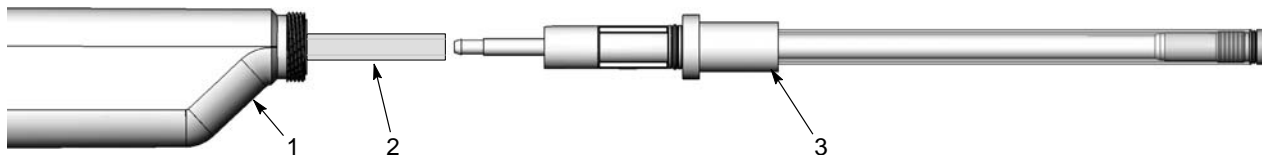

Figure 2 Connecting Powder Tubing to Lance Extension
1. See Figure 2. Slide the 8 or 10-mm powder tubing (2) through the spray gun body (1) from the rear and out the front.
2. Connect the powder tubing to the barbed end of the lance assembly (3).